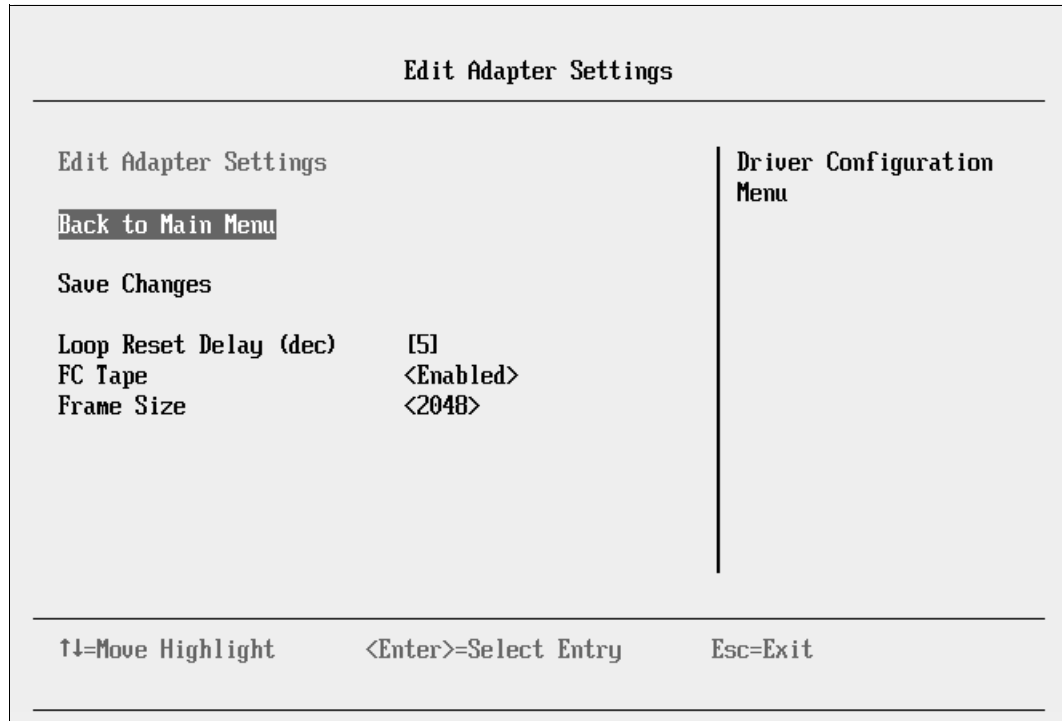

Figure 9-153 Edit Adapter Settings panel
5. In the Edit Adapter Settings panel (Figure 9-153), confirm the settings. In this case, we used the following settings: